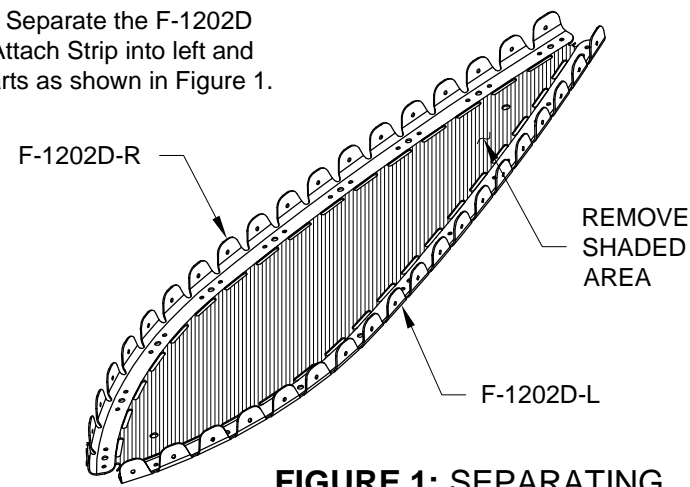

FIGURE 1: SEPARATING THE PANEL ATTACH STRIP
Step 1: Separate the F-1202M Canopy Attach Doubler into left and right parts as shown in Figure 1.
Step 1: Separate the F-1202D Panel Attach Strip into left and right parts as shown in Figure 1.